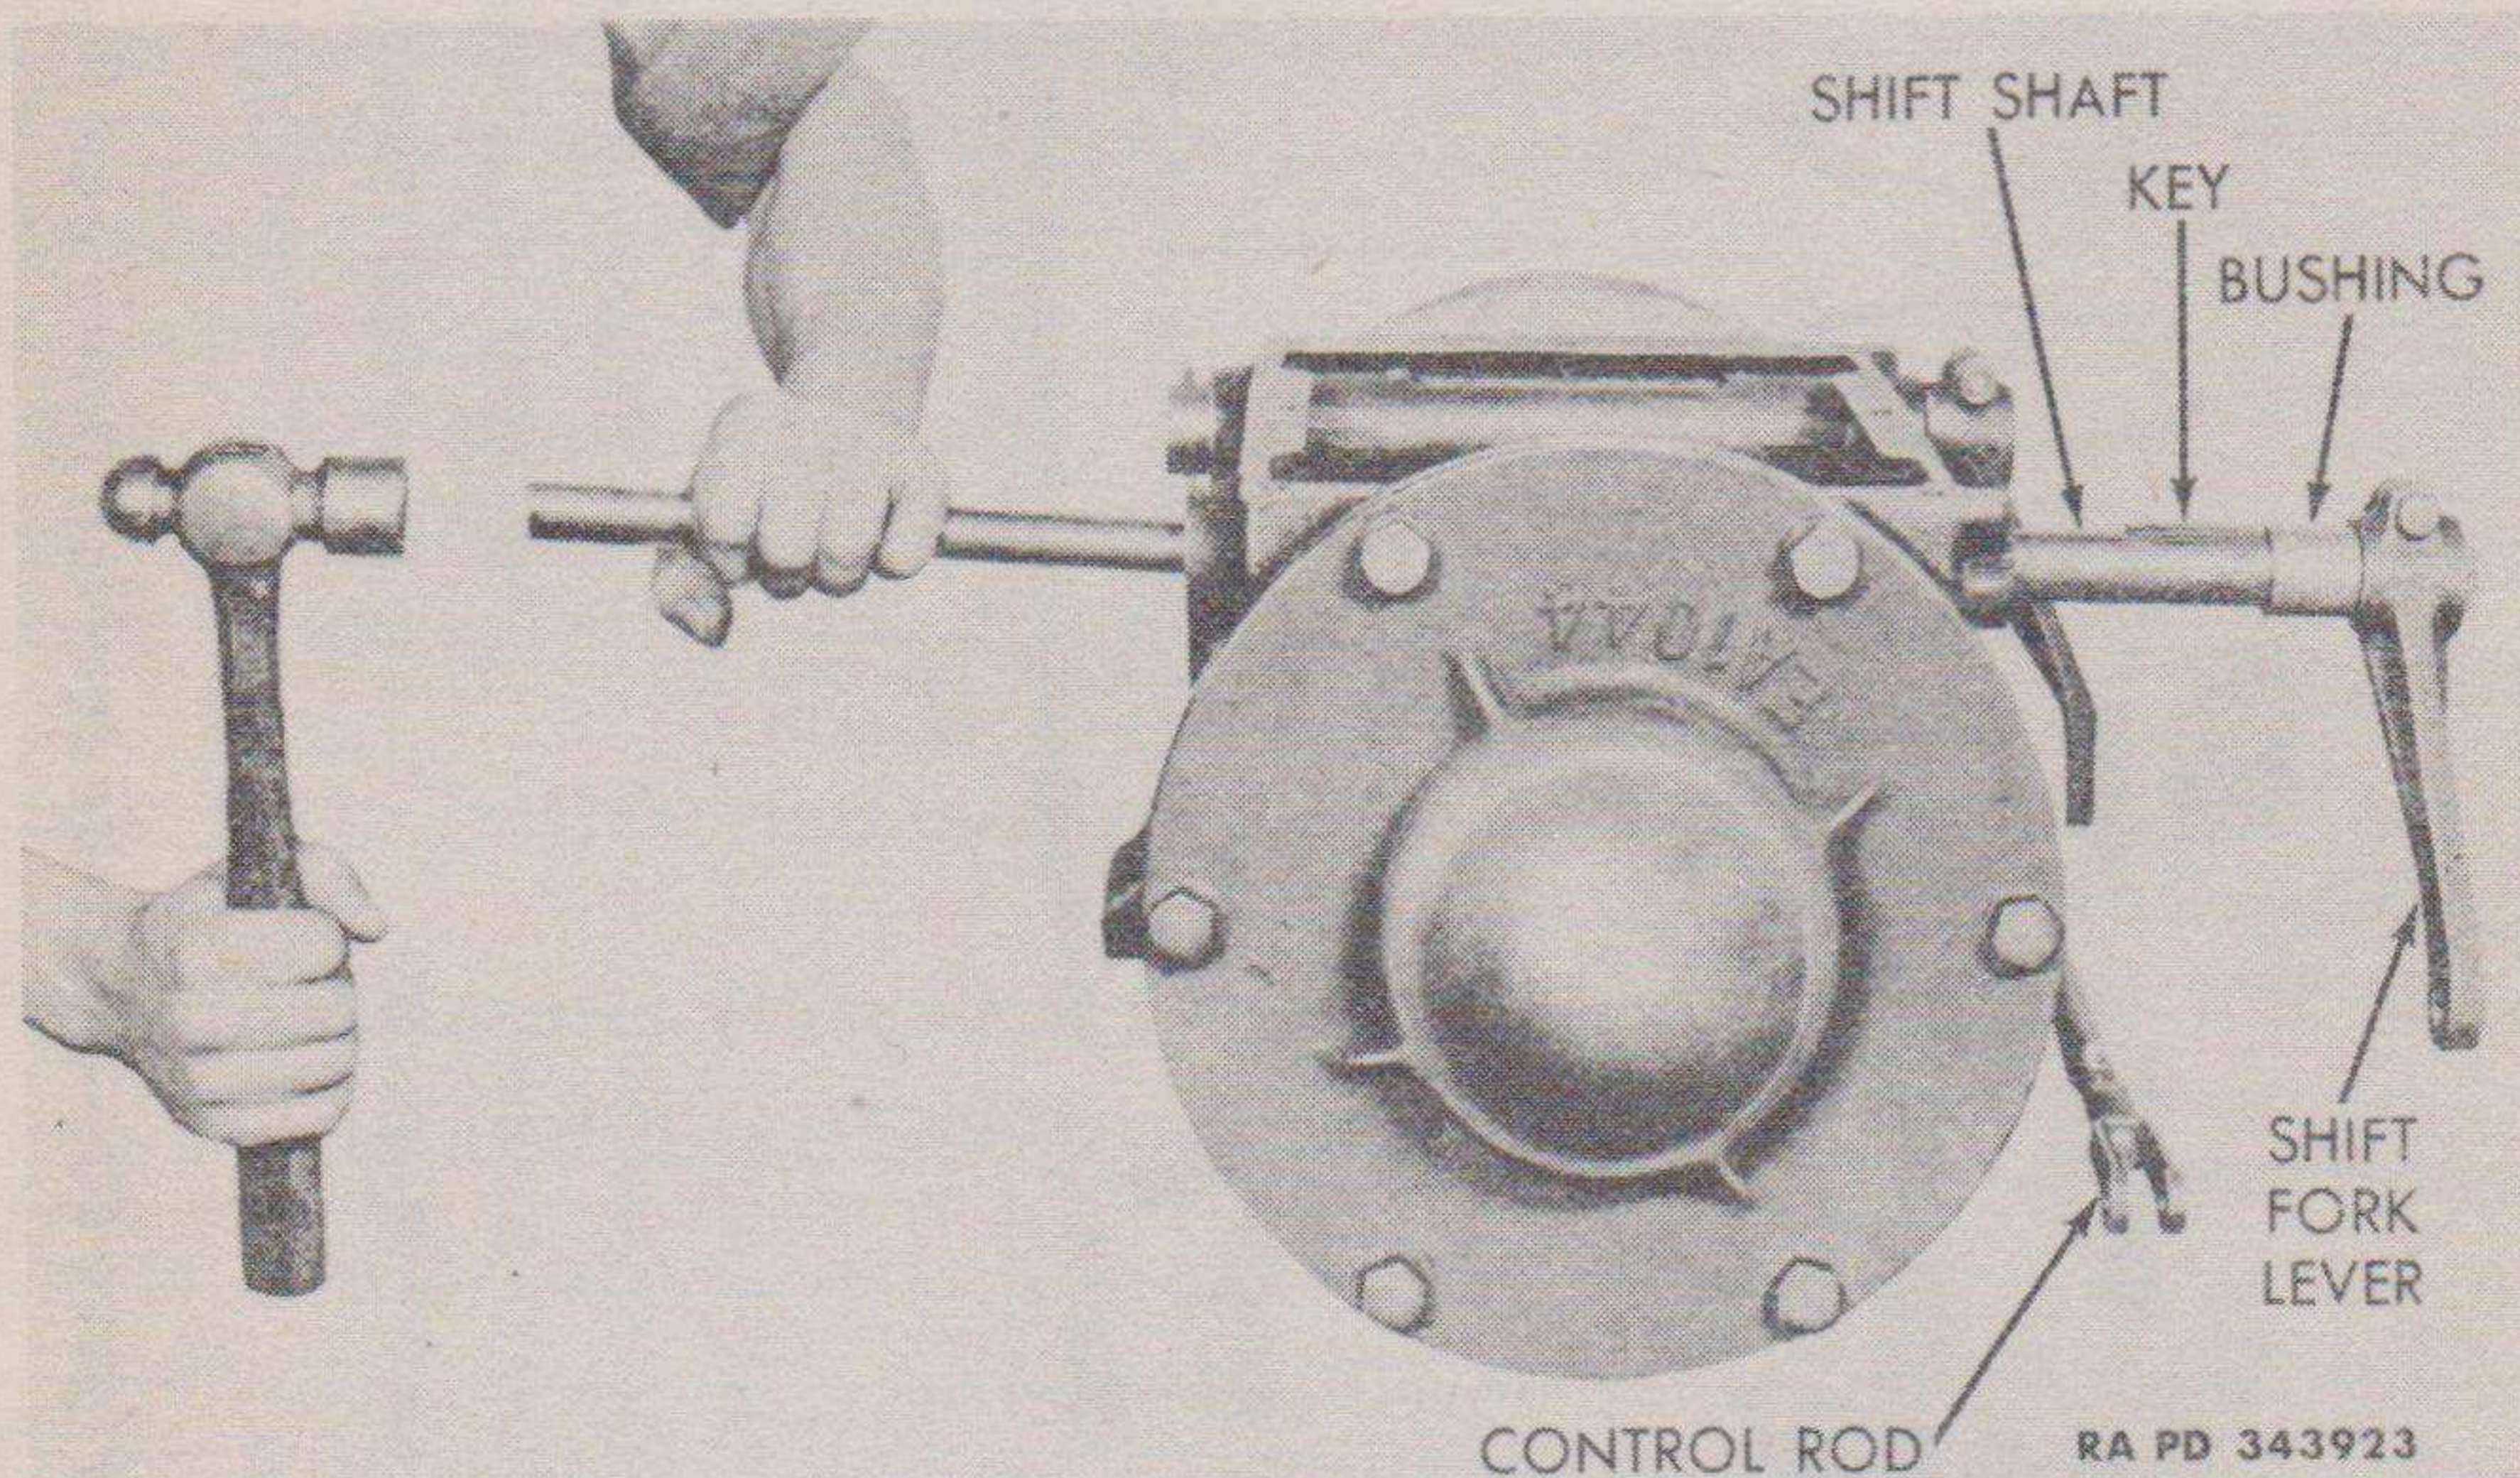
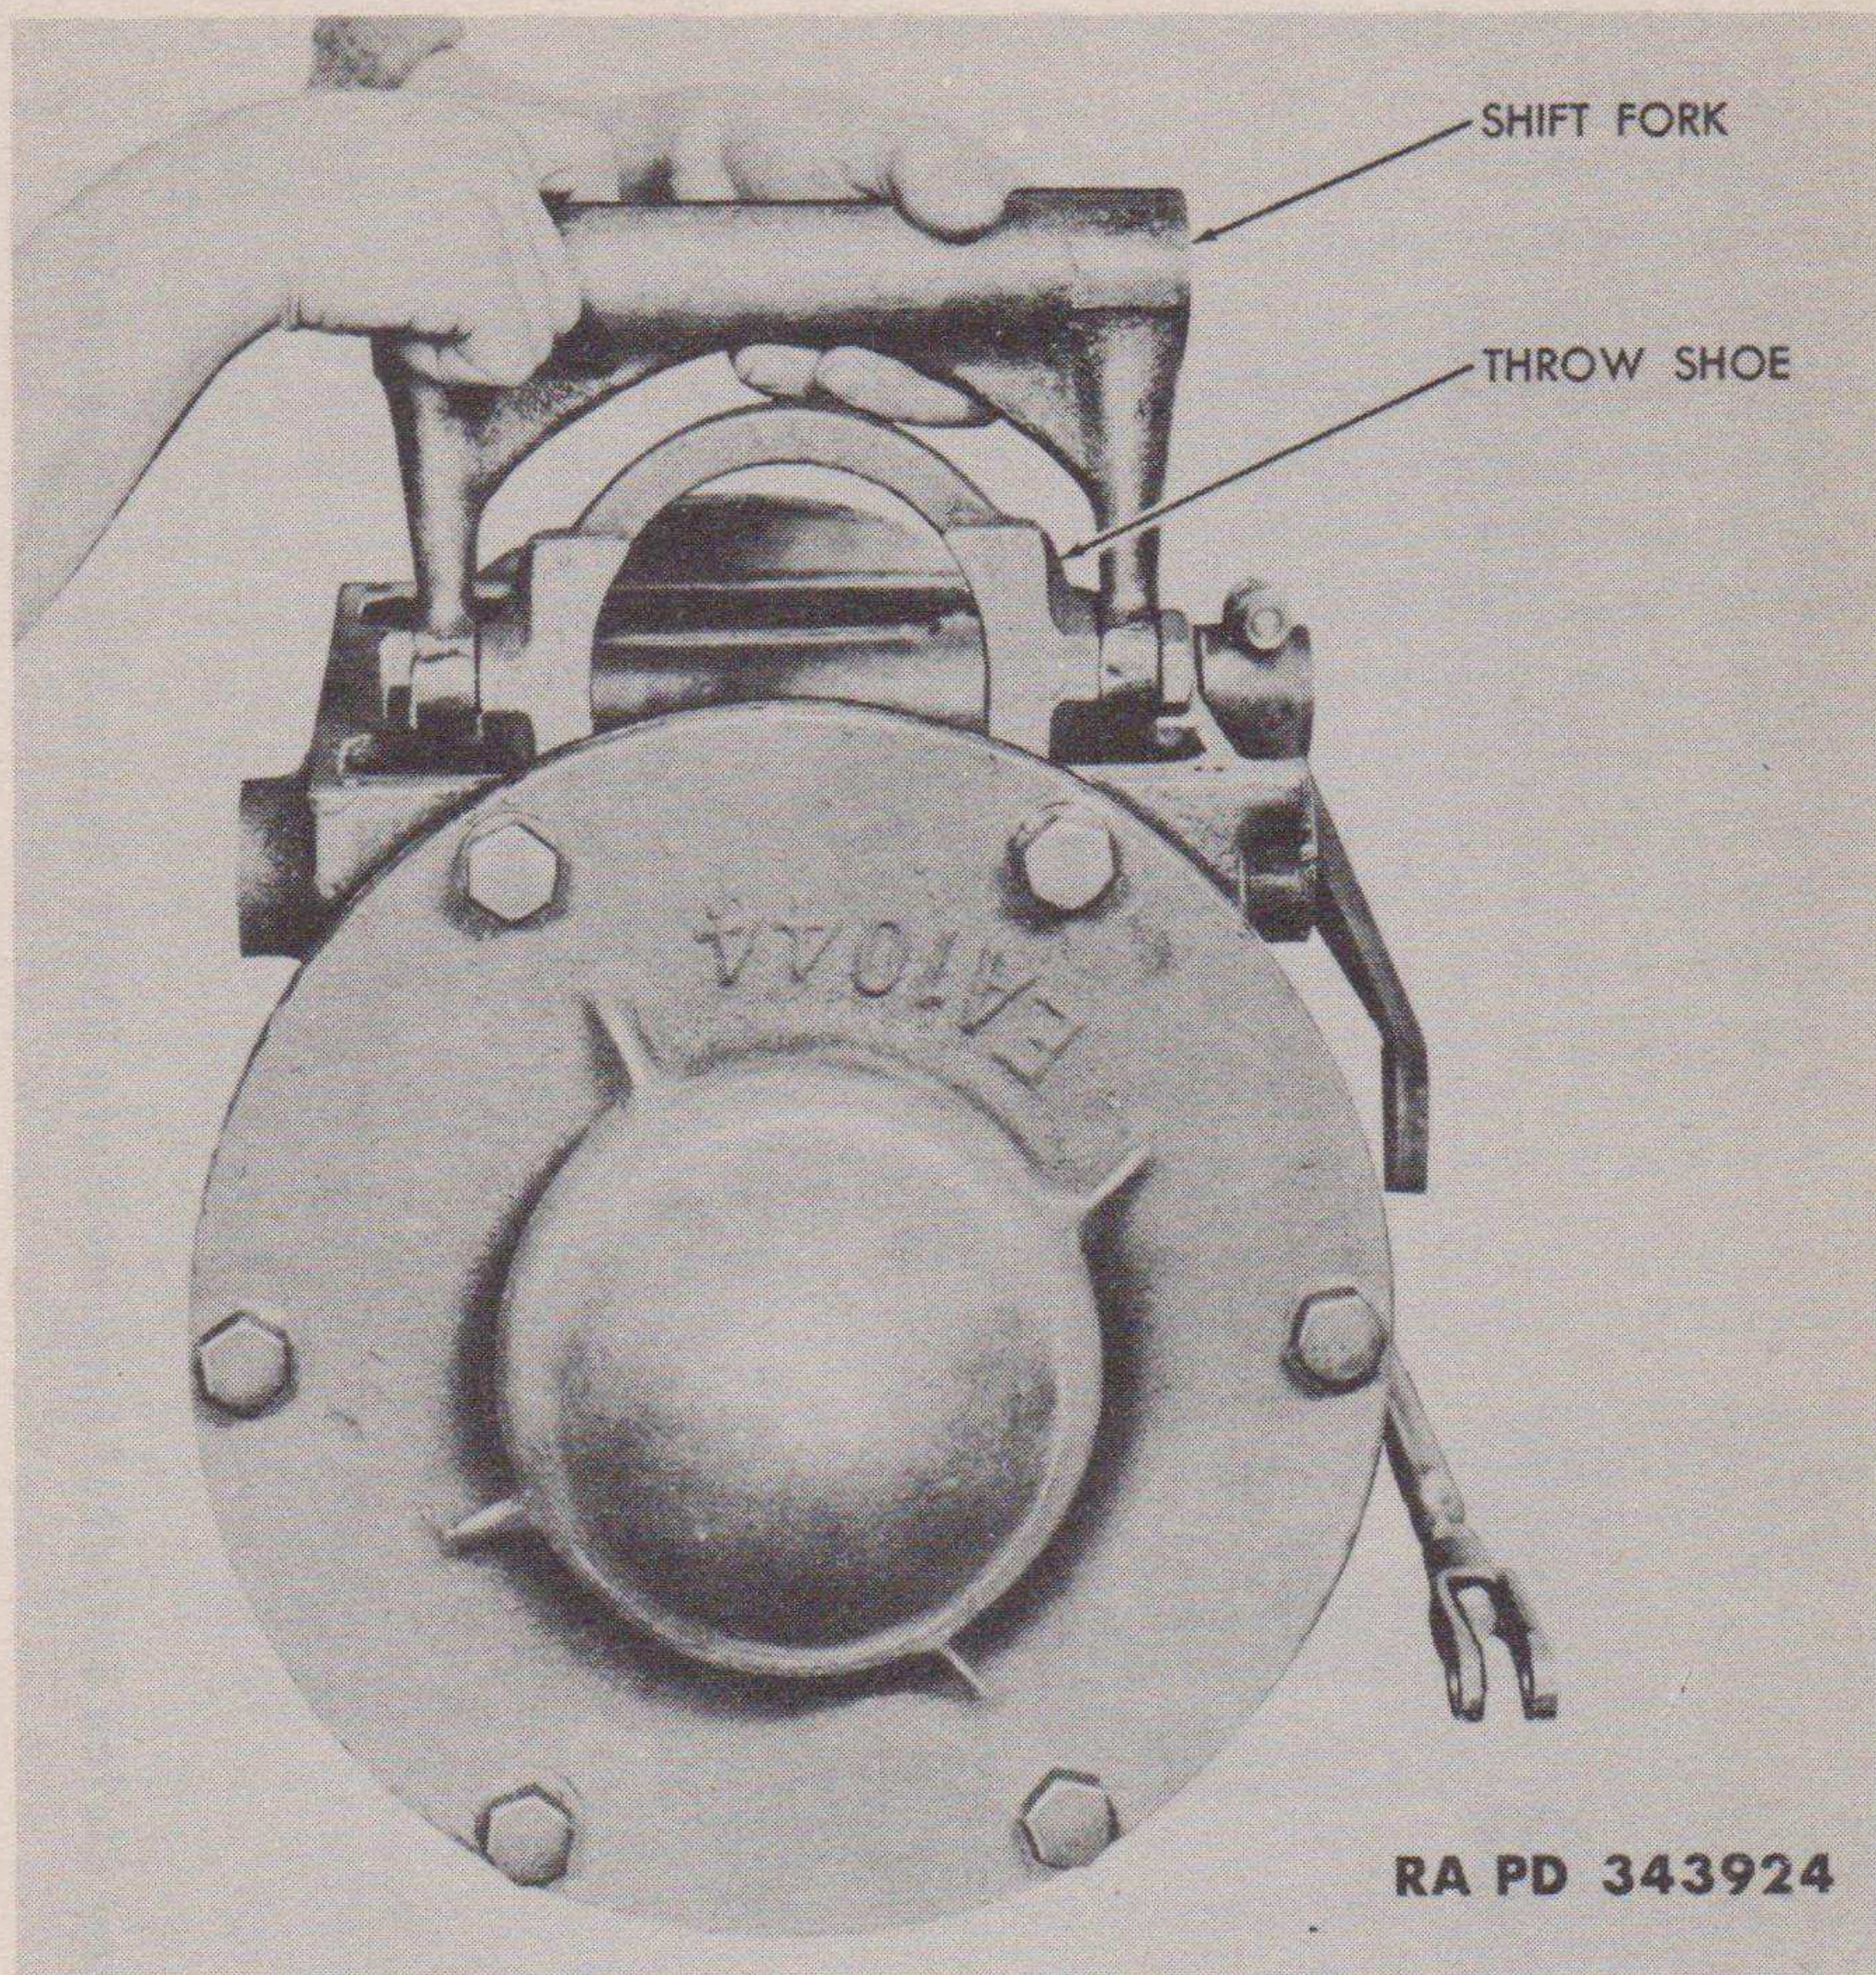

Figure 61—Removing Clutch Shift Shafts
Figure 62—Removing Shift Fork and Throw Shoe Assembly
(1) Before removing mechanism from clutch case, clean the exterior of case to insure that dust and dirt will not accumulate on interior mechanism.
(2) Drain lubricant from clutch case. Remove clutch cover from case. Remove collars from clutch shift shafts, and drive the shafts out of the case and shift forks. (See fig. 61.) During this operation, the Woodruff keys in the shift shafts will force the shaft bushings out of the case. Lift out the shift fork with clutch throw shoes as one assembly. (See fig. 62.)
(3) Remove clutch case cap from rear of case. Remove cotter pin and nut from the drive clutch shaft; then raise the tang of the locking washer, and remove nut from the clutch drive sleeve. Remove shims from end of drive clutch shaft.
(4) Remove the bearing from drive clutch sleeve, and then remove brake spacer and drive brake shell.
(5) Remove the cap screws which attach the clutch case to the main supporting case tube, and slip the case off the clutch and brake assembly.
(6) Remove the clutch and brake assembly with drive and feed shafts out of the main supporting case tube for further disassembly.